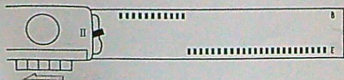

Fig. 60
- 4) Knit back one row. (See Fig. 60)